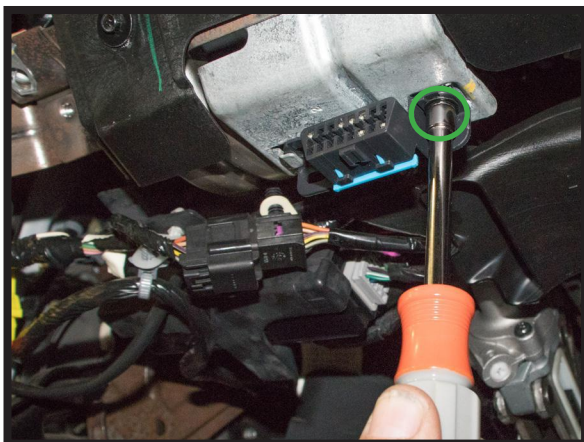

FIGURE 77
3. REMOVE OBD MOUNTING SCREW AND DROP THE PLUG DOWN. (FIGURES 77, 78)